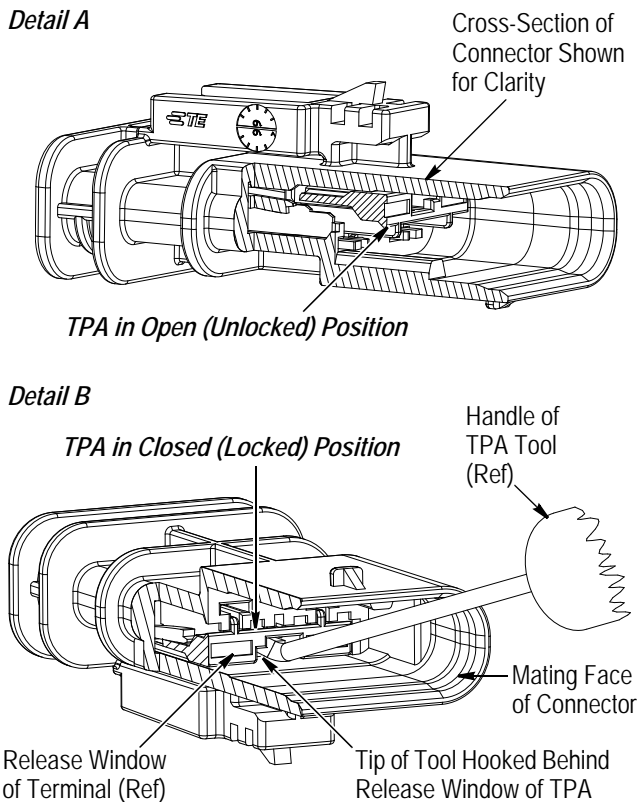

Figure 2
3. Make sure that the TPA is in the open (unlocked) position as shown in Figure 2, Detail A. If it is not, open the TPA as follows:
- a. Insert the tip of Delphi Tool 15313892 into the mating face of the connector, and hook it onto the back of the release window of the TPA. See Figure 2, Detail B.